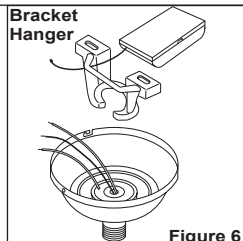

Figure 6 Bracket Hanger
Canopy Hanger (Fig. 4): Place receiver in canopy. Connect wiring as shown in Figure 6. Extend antenna through one of the ceiling plate openings (approximately 3–6”).
Hunter Hands-Free™ Canopy: Connect wiring as shown in Figure 6. Place receiver inside mounting bracket. Extend antenna above the ceiling mounting bracket (approximately 3–6”).
Bracket Hanger: Starting with the antenna wire, slide receiver inside mounting bracket. If a ground wire mounting screw prevents the receiver from sliding into the bracket, move ground wire and screw to an unused hole at the top of the bracket or secure with a canopy mounting screw. The bracket must remain properly grounded. Connect wiring as shown in Figure 6. Extend antenna above the receiver (approximately 3–6”).
1. Use the 2 large (orange) wire connectors supplied to connect the receiver and house wiring, then use the 3 small (blue) wire connectors supplied to connect the receiver and ceiling fan wiring. Refer to the Wiring Diagram in Figure 6.